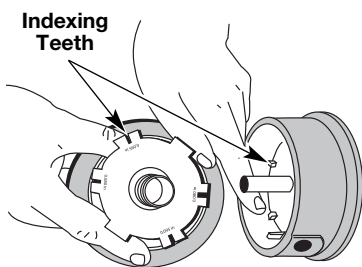

Fig. 32
5. Check the indexing teeth on the inner reel and outer spool for wear (Fig. 32). If necessary, remove burrs or replace the reel and spool.